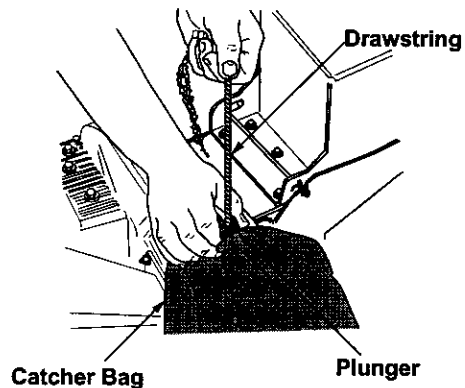

Figure 8
- Depress the plunger on the drawstring, and pull on the drawstring until the bag is tight around the chute opening. Release plunger to lock it into position. See figure 8.